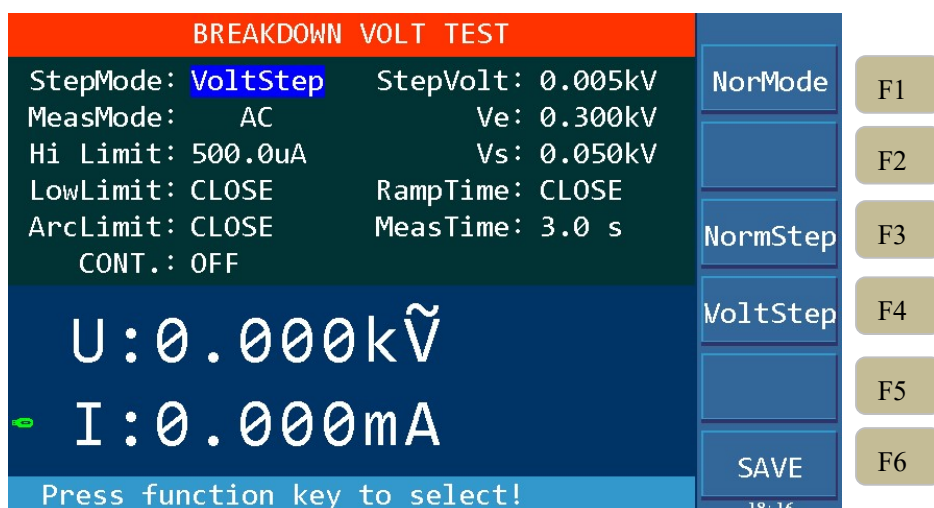

Figure 4-22
2. Press the F1 key , select the test mode of BDV(Break Down Voltage), press the **【TEST】** key to enter the test interface, as shown in Figure 4-22.